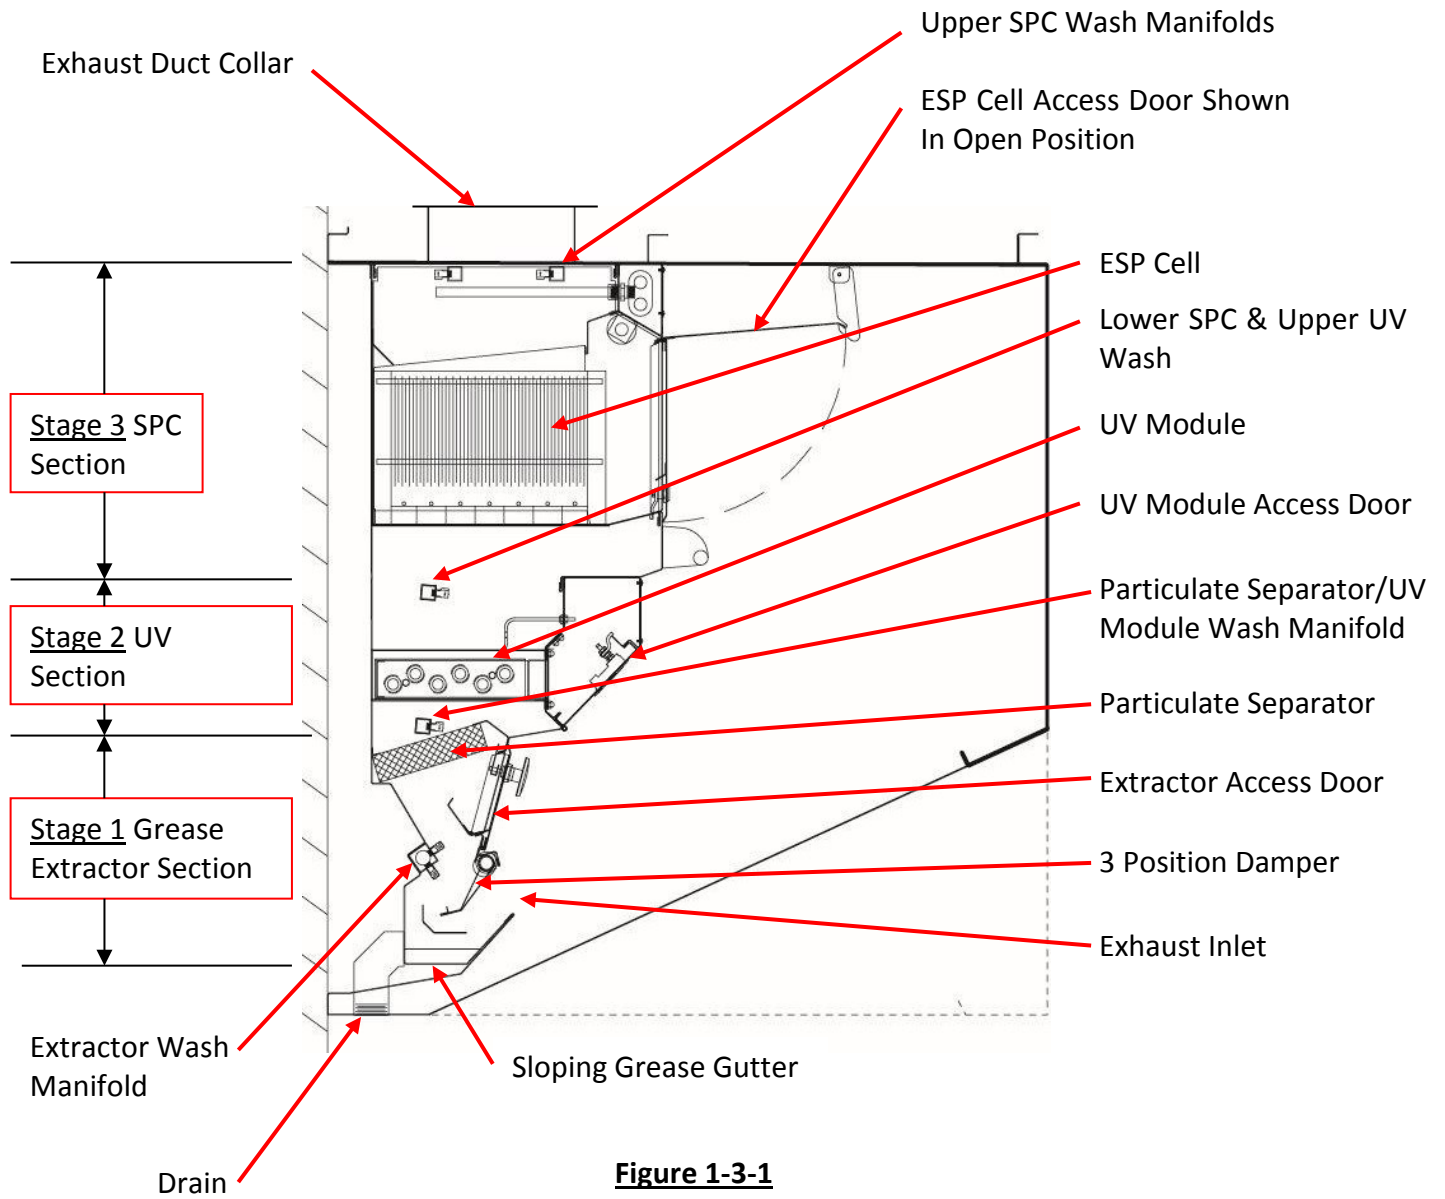

Figure 1-3-1
The Gaylord Model CG3-UVi-SPC Series is a 3 stage Ventilator containing a high efficiency Grease Extractor, Ultraviolet Light (UV) and Electrostatic Smoke Pollution Control (SPC) in one integral unit (Refer to Figure 1-3-1). Stage 1, the primary Grease Extractor, removes the larger grease particulate, key to the efficient operation of the UV and Smoke Pollution Control sections. Stage 2 is an Ultraviolet Light System that dramatically reduces grease accumulation in the Pollution Control section, exhaust plenum, ductwork and exhaust fans. This section contains UV Modules each having six high efficiency lamps powered by high tech solid state ballasts. Stage 3, the Smoke Pollution Control section, contains electrostatic precipitator ESP Cells to remove smoke particulate for the airstream.